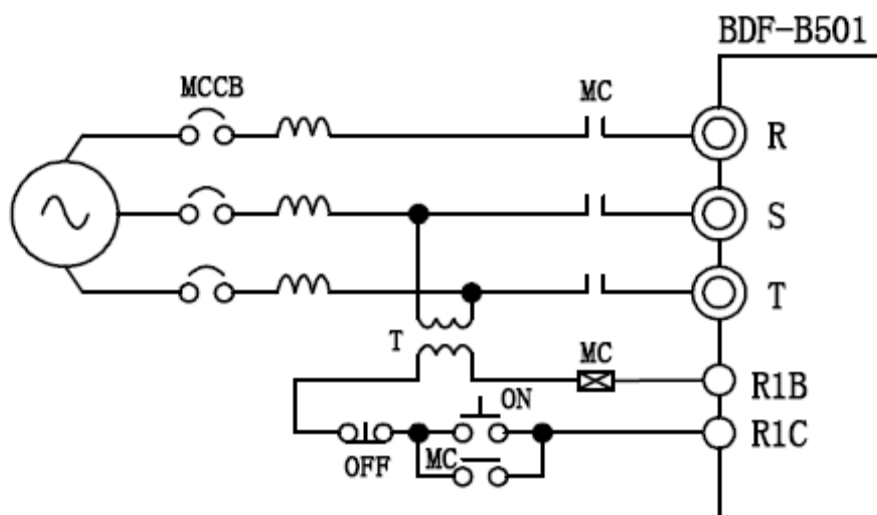

Fig.2-10 Connect Input Breaker
- ① The capacity of MCCB should be 1.5~2 times than inverter's raleted current.
- ② The time pattern of MCCB should meet the overheat protection of inverter(150% of rated output current for 1 minute, 180% of rated current for 2 seconds)
- ③ If MCCB work together with two or over tow inverters,connect it with the Fig2-10,please turn off the power supply when connect the fault output relay of the inverter to the power supply contactor.